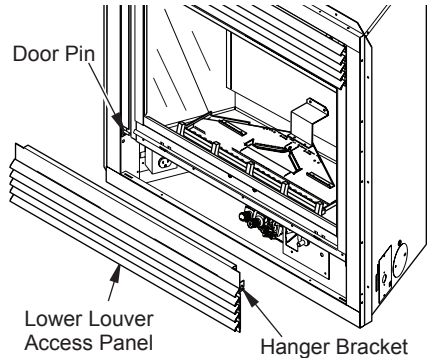

Figure 55 - Removing Lower Louver Access Panel
1. Grasp the lower louver panel and pull up until the hanger brackets release from the door pins (see Figure 55).
1. Remove the lower louver panel (see *Removing Lower Louver Access Panel* and Figure 55, page 29).